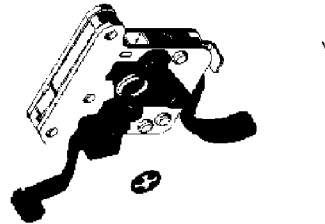

Figure 11
12. Install the **safety retainer** on the safety pivot pin. Orient the safety retainer so that the legs stick up away from the safety assembly as shown in Figure 11. Make sure the all of retainer's legs are snapped into the groove in the safety pivot pin or the retainer can come off.